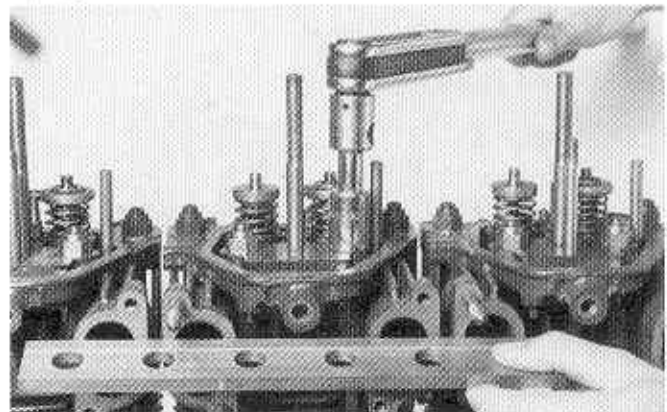

Figure 5.7 Checking Cylinder Head Alignment
- (1) Fit a new cylinder head gasket and lower the head over the studs into position.
- (2) On multi-cylinder engines ensure that the manifold bolting faces are parallel with each other. Check with a straight edge as shown in Figure 5.7, or by bolting on a manifold.
- (3) Fit the cylinder head nuts. Tighten each nut in turn sufficiently to touch the cylinder head. Do not compress the cylinder head gasket.